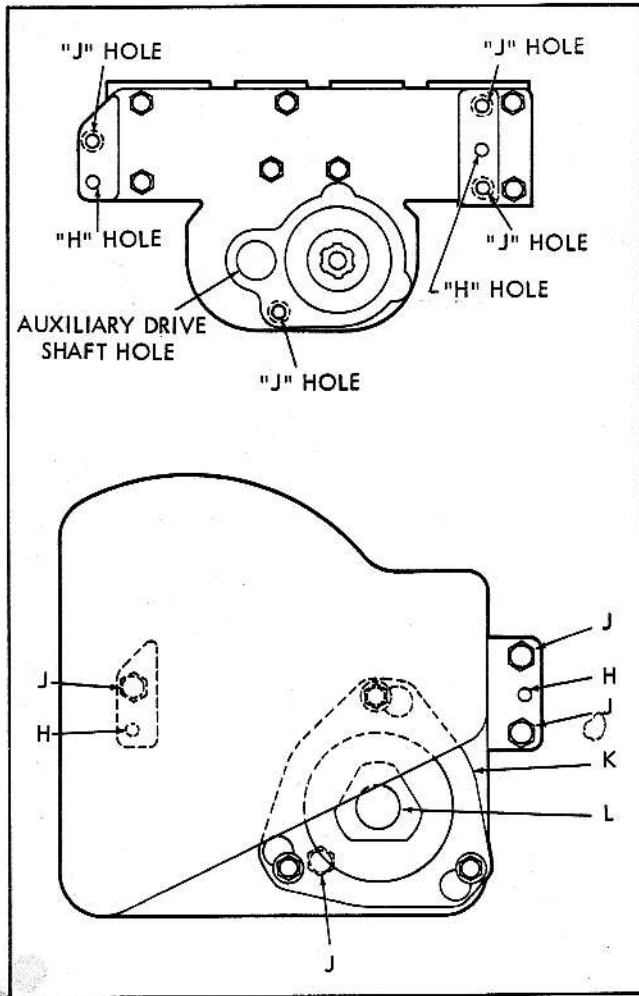

Fig. 8. Mounting Low Lead Attachment.
2. Insert the auxiliary drive shaft supplied with the lead attachment through the hole indicated in Figure 8 and into the spindle hub of the drive gear in the saddle. Push the shaft in as far as it will go.